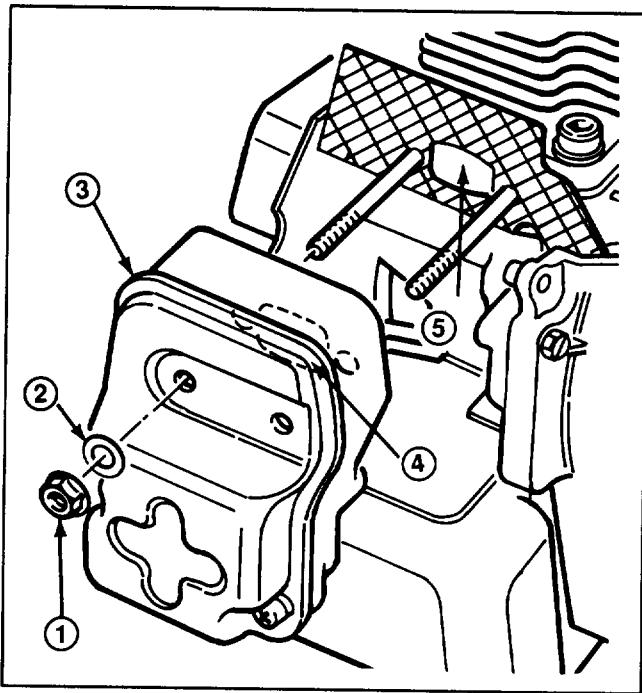

Figure 15
2. Remove two (2) nuts and two (2) washers securing muffler to engine (Fig. 15). Remove muffler.
3. Clean any carbon build-up from muffler port (Fig. 15).
4. Pull recoil starter slowly to rotate the engine crankshaft until the piston totally covers the exhaust port (Fig. 15). Clean the exhaust port area by using a clean, flat piece of hard wood. Remove all loose particles.
- Drain gasoline from fuel tank. Remove spark plug cover by squeezing sides together and slide off engine cover (Fig. 15). Pull wire off spark plug.